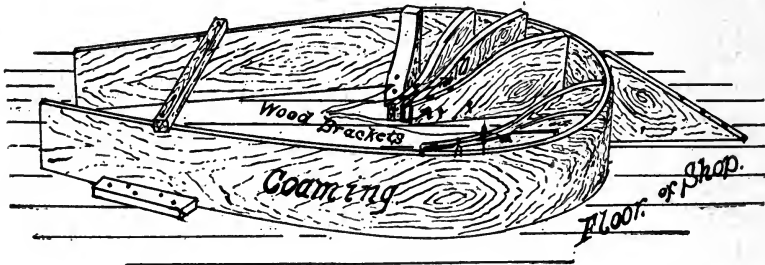

FIG 8.
**Coaming**—Fig. 8 shows method of bending coaming. Strike a semicircle on the floor somewhat smaller than the circle cut in the deck, to allow for the coaming